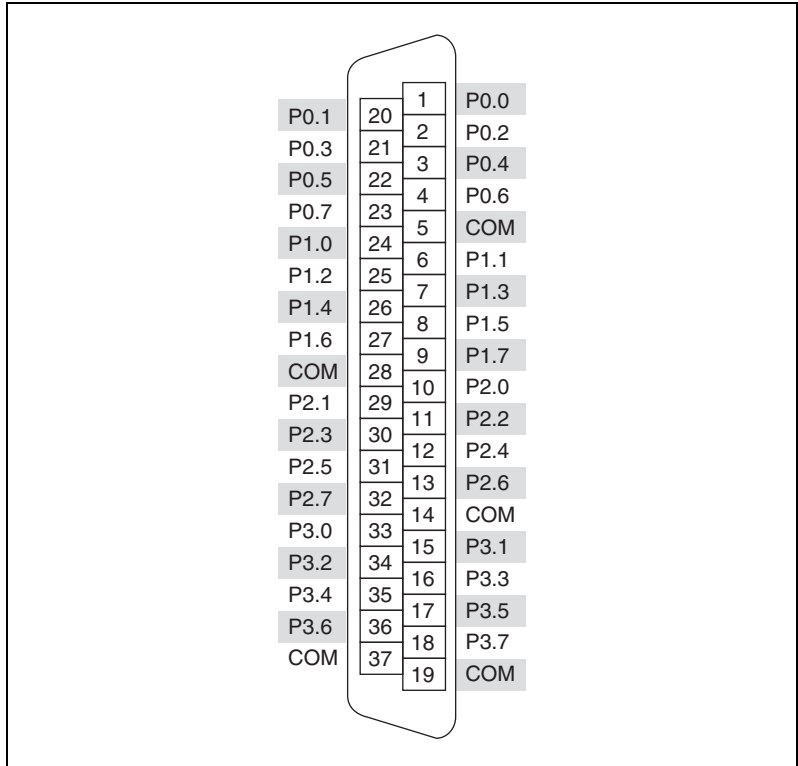

Figure 3-1. NI 6510 Pin Assignments
Figure 3-1 shows the pin assignments for the SH37F-37M cable when connecting to the NI 6510 device. The naming convention for each pin is $PX.Y$, where X is the port (P) number, and Y is the line number or name.